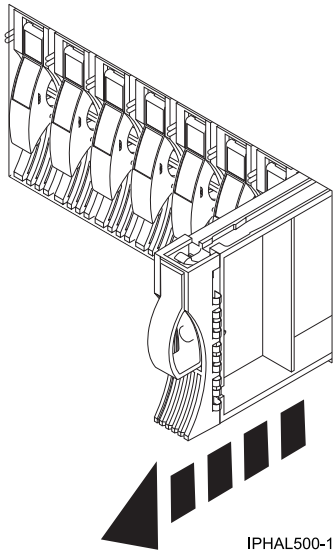

Figure 7. Removing a disk-drive filler from model
- a. Pull the disk-drive filler from the slot, as shown in Figure 7 on page 20.